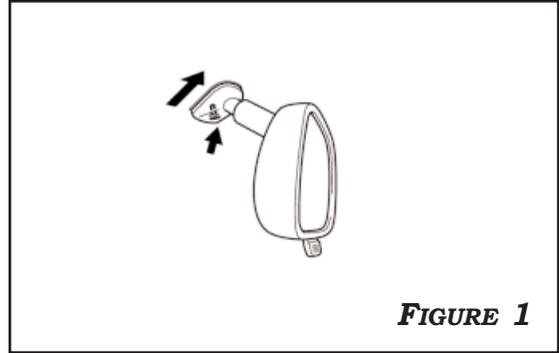

FIGURE 1
1. USING A **T20 "TORX"** SOCKET WRENCH, REMOVE THE SCREW AND THE INNER REAR VIEW MIRROR. **FIGURE 1**